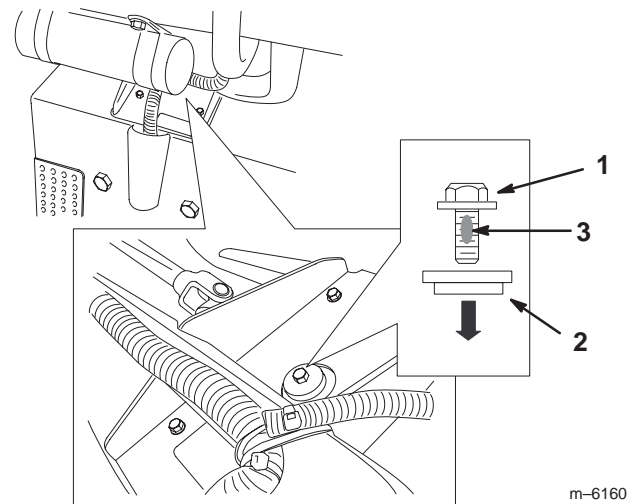

Figure 20
- Remove the existing retaining bolt and washer (located under the dash) and discard them (Fig. 20).
- Install a new flange-head bolt with blue patch lock and a step washer with the step pointing down into the steering pitman arm (Fig. 20).